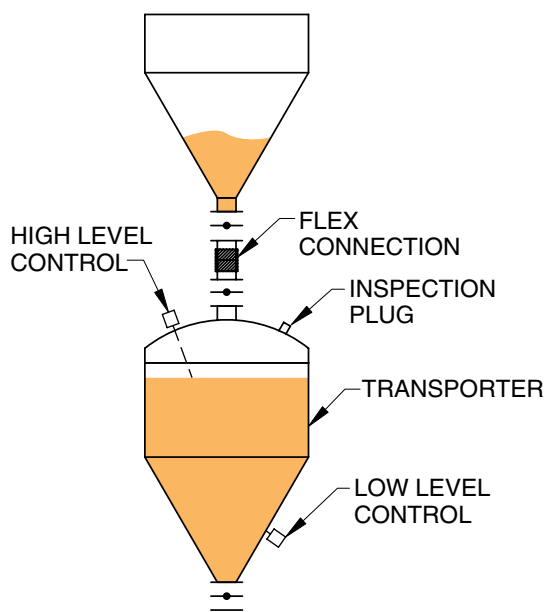
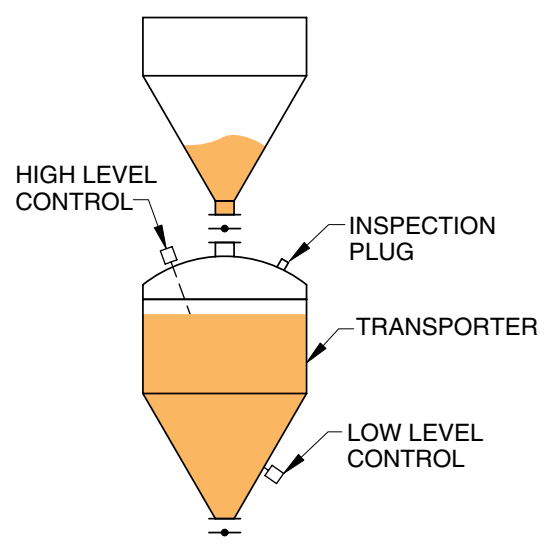

Fig. 2
Fig. 3
2. Full or high level controls in transporters (see Fig. 2 and Fig. 3) should be mounted low enough to allow the inlet valve sufficient time to close without overflowing vessel. This can be easily checked by removing the safety relief valve and/or opening the inspection port (if applicable) in the top of the vessel and then using a small probe to check the actual material level inside. The inlet valve should be allowed to close fully on a clean seat without material obstructions (see Fig. 2). It may be necessary to make a field adjustment of the level control since each material has a unique flow rate and pattern. The inlet valve should be allowed to close fully on a clean seat without material obstructions (see Fig. 2). It may be necessary to make a field adjustment of the level control since each material has a unique flow rate and pattern.